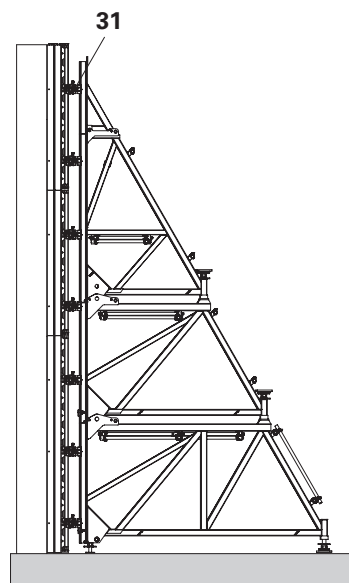

Fig. B2.05
5. Lift Brace Frames with the crane into the opened Brace Frame Connectors RFP. Securely fix the wedges. Formwork support rests against these. (Fig. B2.05)